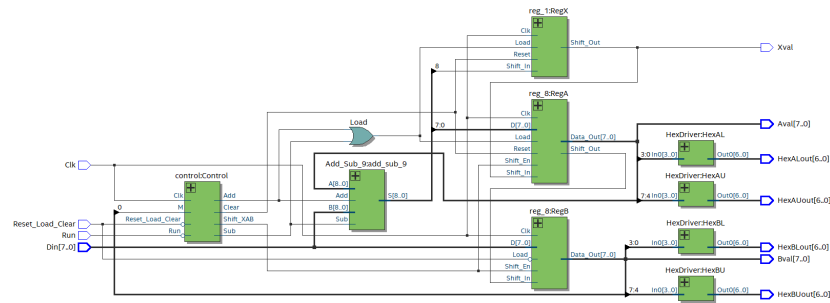

Figure 1: The Top Level Block Diagram of the Multiplier.
The top level block diagram can be found in Figure 1. From left to right there are four major components of the circuit:
- **Description:** This module keeps track of the current circuit status with an **Finite State Machine**. At each state, the **control** module generates signals that will determine the behavior of the connected **Add\_Sub\_9** and **reg\_8** modules (see Figure 1 for connection details).